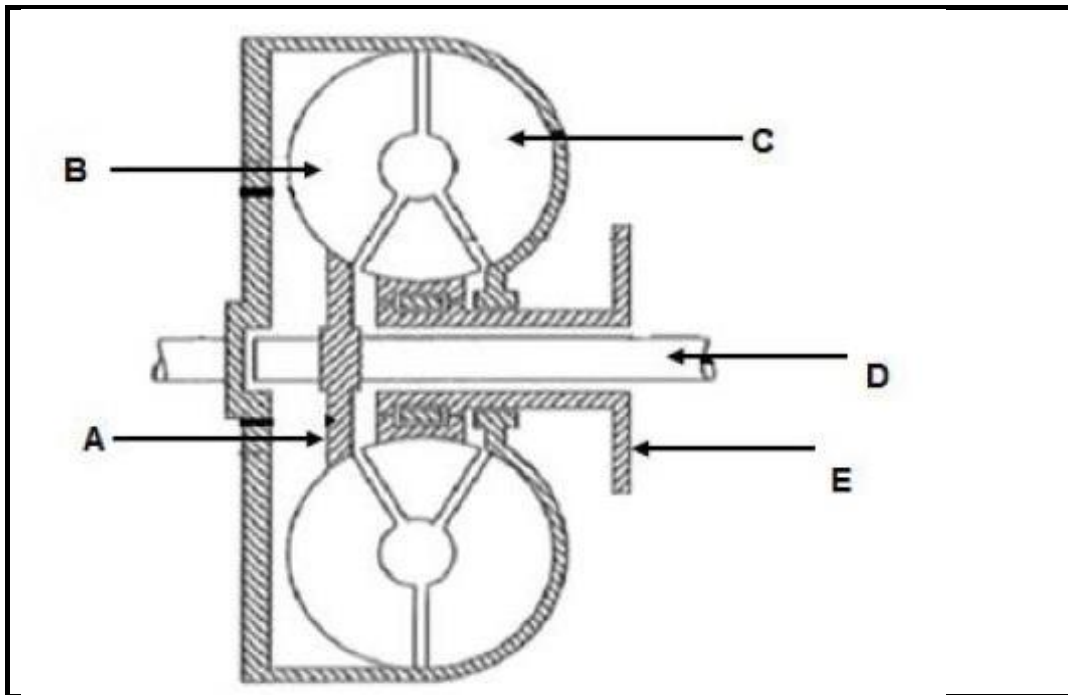

FIGURE 9.3
- 9.3 The diagram in FIGURE 9.3 below shows one of the components of an automatic transmission system.
- 9.3.1 Identify the equipment in FIGURE 9.3 above. (1)
- 9.3.2 Label parts **A–E** in FIGURE 9.3 above. (5)
- 9.3.3 State THREE functions of the equipment in FIGURE 9.3 above. (3)